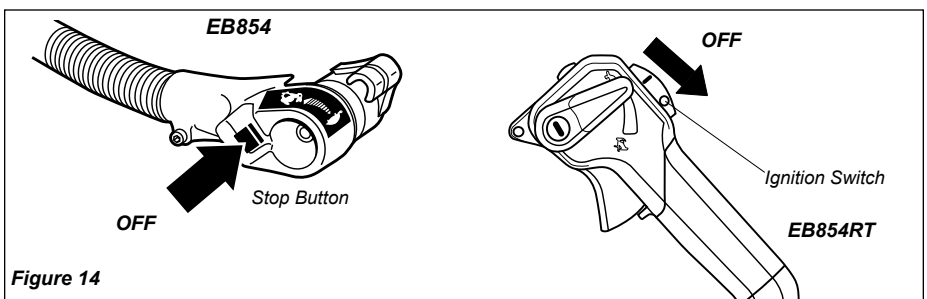

Figure 14
2. Push and hold the Stop button down until the engine stops. **RT Model:** Slide the ignition switch towards the rear to "O" (OFF). See Figure 14.